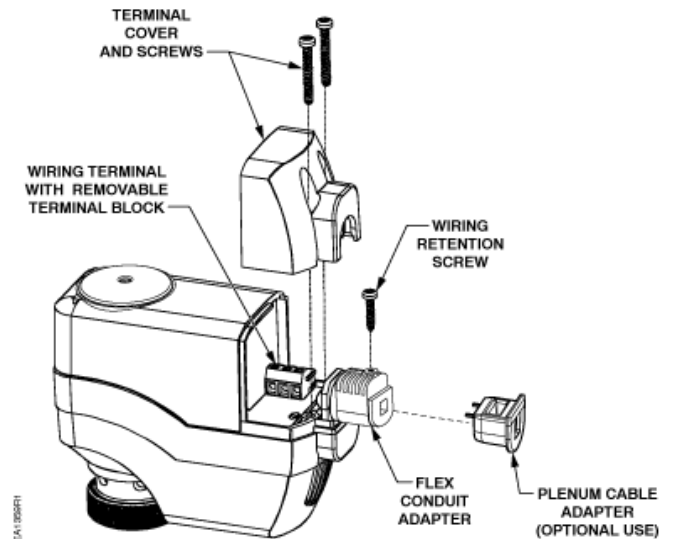

Figure 16. SSD61.5U/SSD81.5U Actuator Components.
3. Using a Phillips head screwdriver, remove the terminal cover (Figure 16).
- Secure the terminal cover in place over the wiring terminals (**Figure 16**) using a Phillips head screwdriver,
1. Remove the terminal cover (Figure 16) using a Phillips head screwdriver.